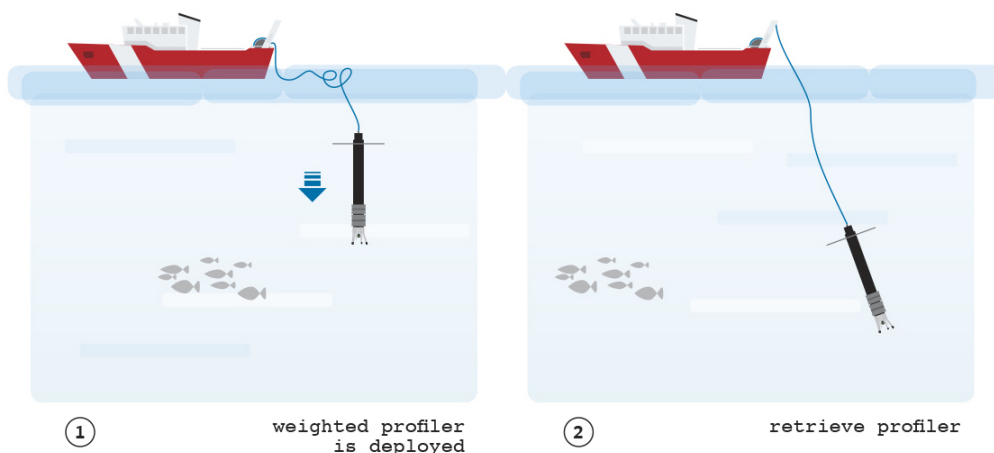

Figure 34: Downward Profile
A schematic of the deployment technique for a downward profile is shown in (Figure 34). The procedure is as follows:
5. Pay out the tether at a rate faster than the rate at which the instrument is moving away from the ship. You achieve this condition when there are one to two loops (5-10 m) of slack tether near the surface (Figure 34, left). The exact amount is not critical but it is always good to have a few extra meters floating in the water in case you momentarily must stop paying out the tether – for example, to undo a snag.
7. Recover the instrument by pulling it to the surface using the tether (Figure 34, right).